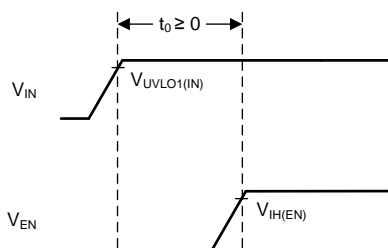

图 46. Sequencing Diagram
- V_{BIAS} and V_{IN} can be sequenced in any order, as long as V_{EN} is tied to V_{IN} or established after V_{IN} , as shown in 图 46